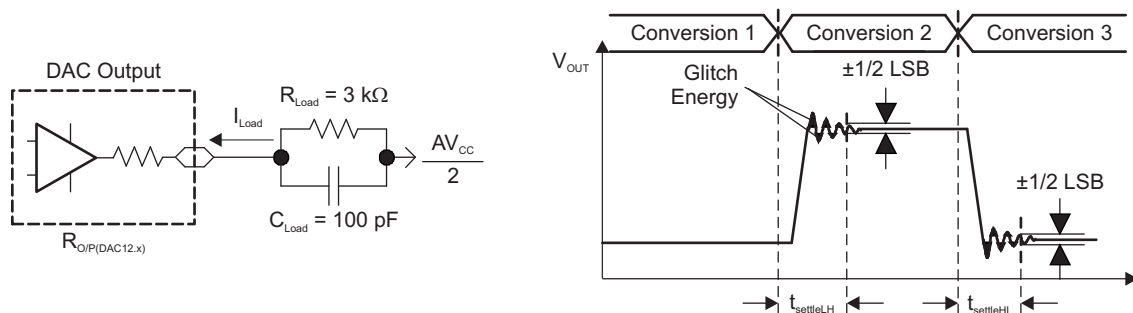
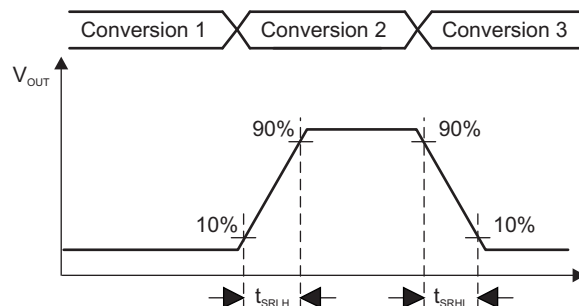

Figure 5-19. Settling Time and Glitch Energy Testing
Figure 5-20. Slew Rate Testing
VREF = VCC, DAC12IR = 1 (see Figure 5-19 and Figure 5-20), over recommended ranges of supply voltage and operating free-air temperature (unless otherwise noted)
| t ON DAC12 on time                   | DAC12_xDAT = 800h, Error V(O) < ±0.5 LSB (1) (see Figure 5-19) | 2.2 V, 3 V      | 60   |     | 120  | μs   |
(1) RLoad and CLoad connected to AVSS (not AVCC/2) in Figure 5-19.
(2) Slew rate applies to output voltage steps ≥ 200 mV.